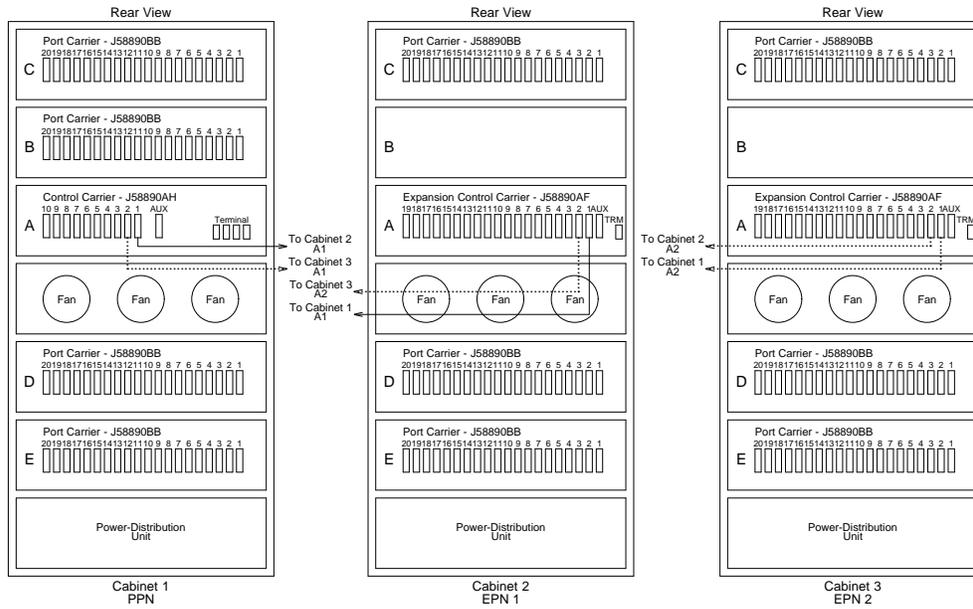
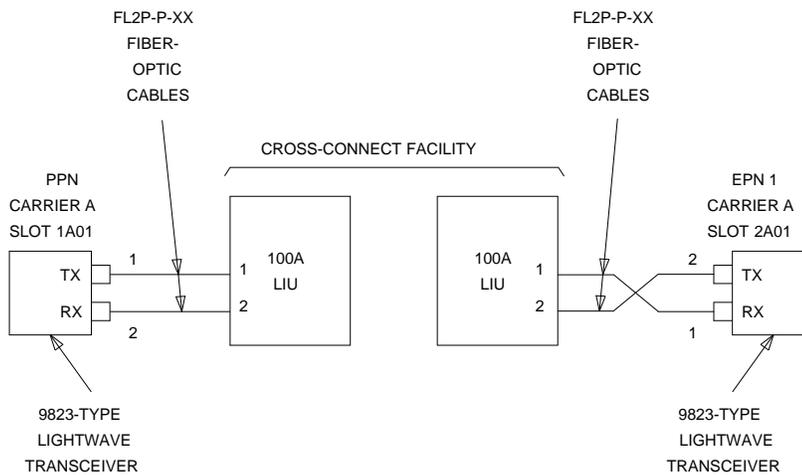
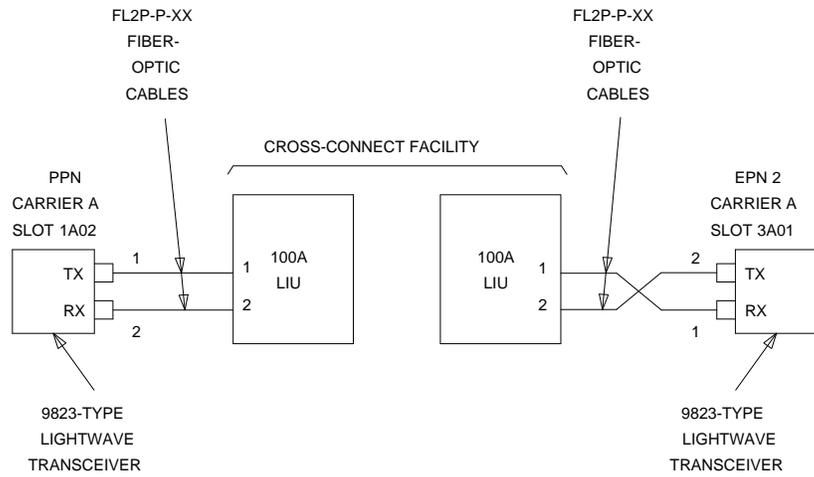
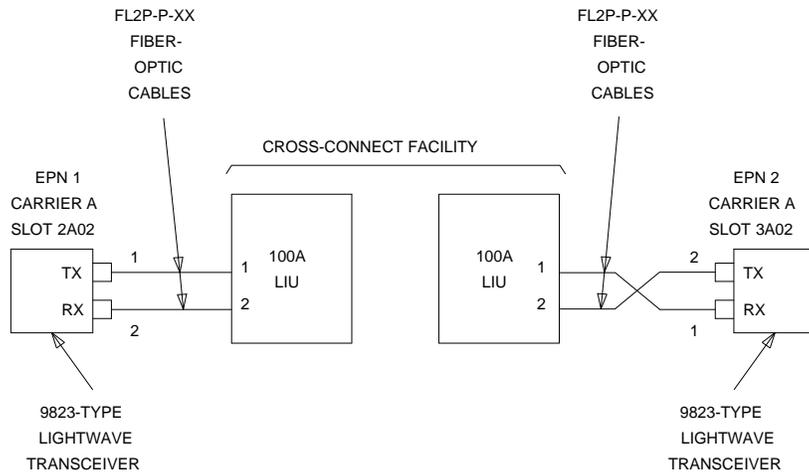

Figure 7-14. Standard-Reliability G3i V4 with Two or Three Port Networks
Figure 7-15. Fiber-Optic Connections PPN to EPN1
Figure 7-16. Fiber-Optic Connections PPN to EPN2
Figure 7-17. Fiber-Optic Connections EPN1 to EPN2
1. Behind control carrier A of PPN cabinet 1 (see Figure 7-14, Figure 7-15, Figure 7-16, and Figure 7-17):